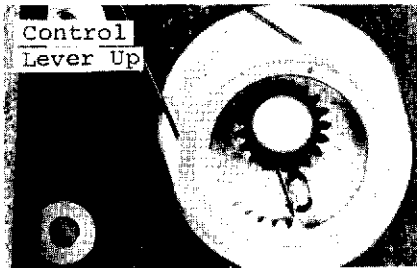

Figure 3-25a
- p. Lubricate working surfaces of actuator (6) with Versilube G-322L grease.
- r. Lubricate working surface of roller guide (1) with DC-44 grease.
- s. Apply Glyptal 7526 to threads of screws (25) and (26).
- (1). Place control lever in PROJECT position.
- (2). Press the ball of cable (18) into cavity of cable drum (19). Rear cable (shortest) must lay to the right.
- (3). Wrap rear cable 1 3/4 turns clockwise, and coming off from the bottom of the cable drum, lay cable over pulleys (rear groove). Secure to control lever when cable drum gear tooth is aligned with the back edge of the bearing slot. (Fig. 3-25a)